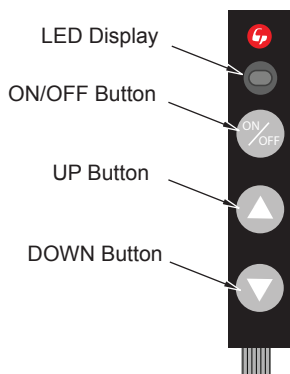

Figure 50 - Touch Pad Control
This touch control has only 3 buttons for controlling manually the flame of the appliance (see Figure 50).
1. To increase the flame level, press the up button (▲). A beep and a flash of the LED indicate that the system has accepted the order, and the flame will increase instantly (see Figure 50).
2. To decrease the flame level, press the down button (▼). A beep and a flash of the LED indicate that the system has accepted the order, and the flame will decrease instantly (see Figure 50).